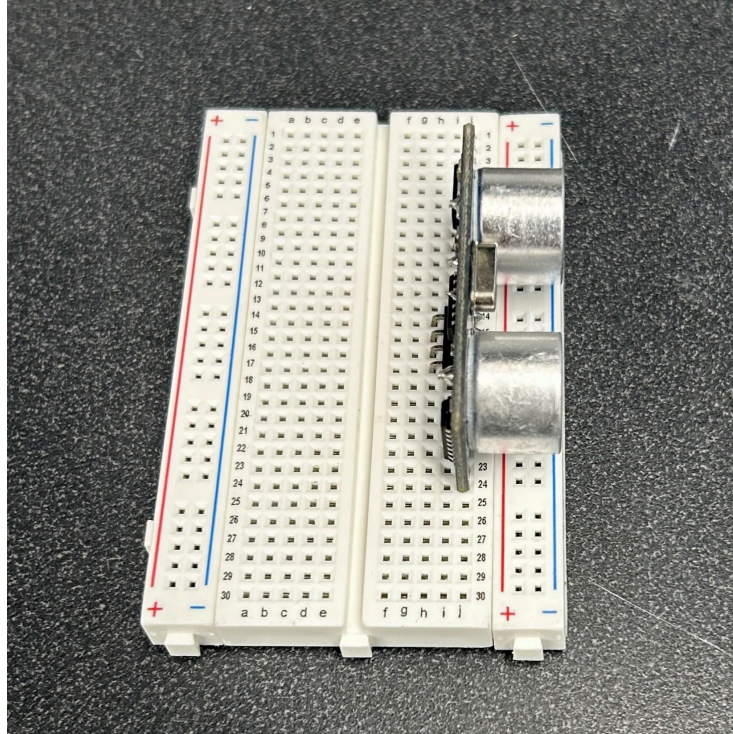

Figure 17: Ultrasonic Sensor Placement on Breadboard
2. Position the flat target by placing it 5 cm away from the sensor along the meter stick. **Note:** Ensure the ultrasonic sensor is in line with the edge of the breadboard for correct readings (Figure 17).